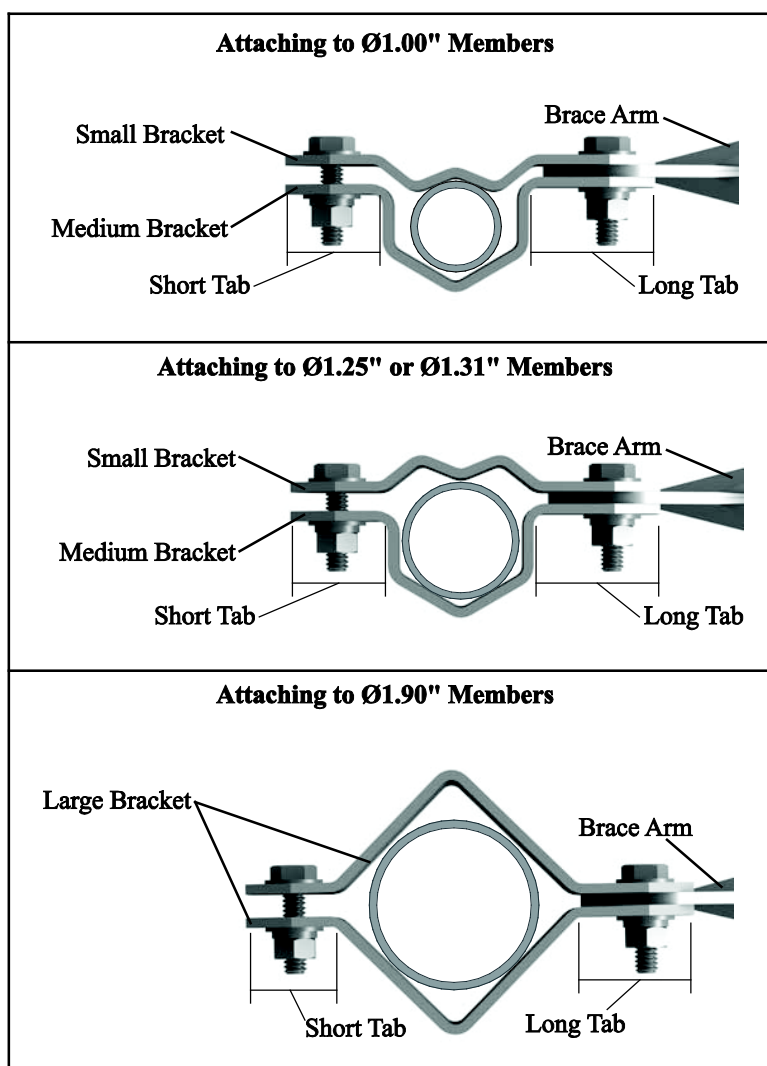

FIGURE 6-18. Bracket selection
1. Consult FIGURE 6-18 and TABLE 6-1 to determine which brackets are needed at either end of the brace to attach it to the crossarm and tripod mast or tower. The figure also indicates what orientation is needed when the small bracket is used.